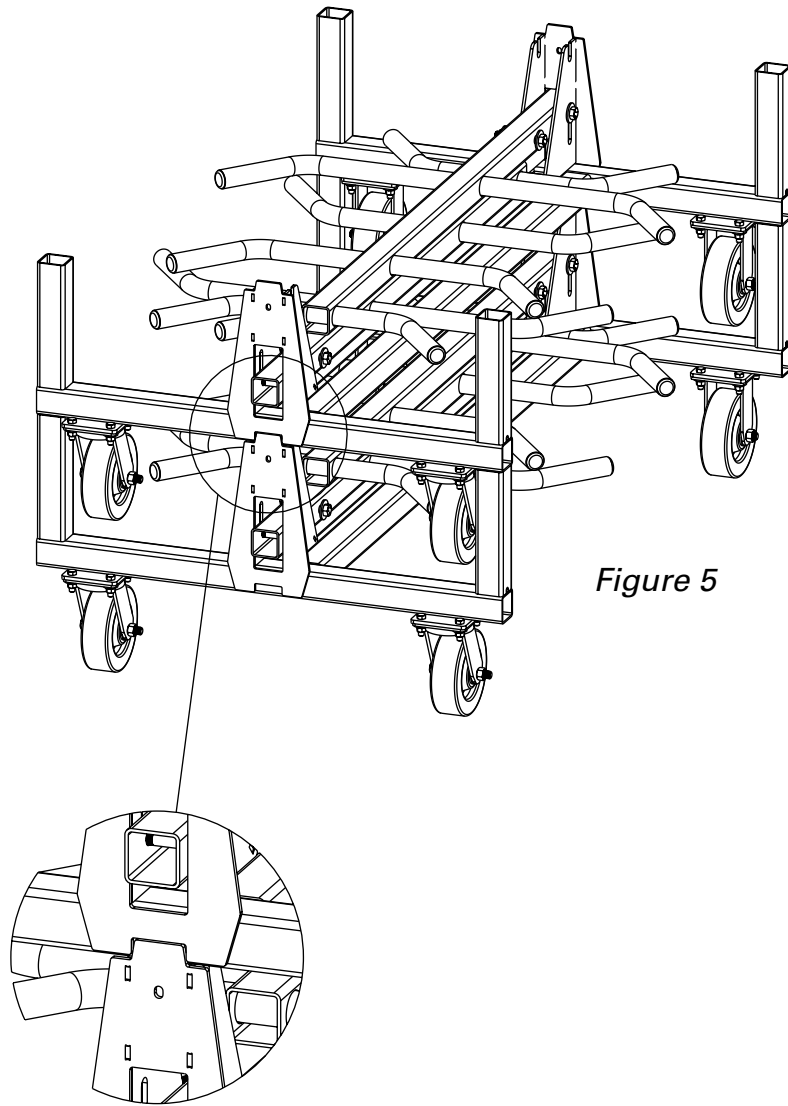

Figure 5
2. Lift rack and position on top of the second rack, ensuring the top rack fully seats in the notches of the lower rack as shown (See Stacking Figure 5).